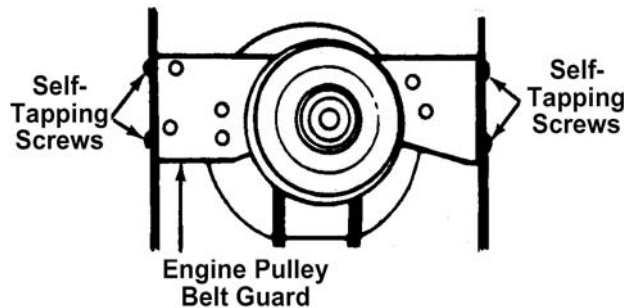

Figure 7-50. Engine Pulley Belt Guard
5. Remove the two self-tapping screws on each side of the frame which hold the engine pulley belt guard to the frame. Remove the engine pulley belt guard by slipping it forward and down. See Figure 7-50.